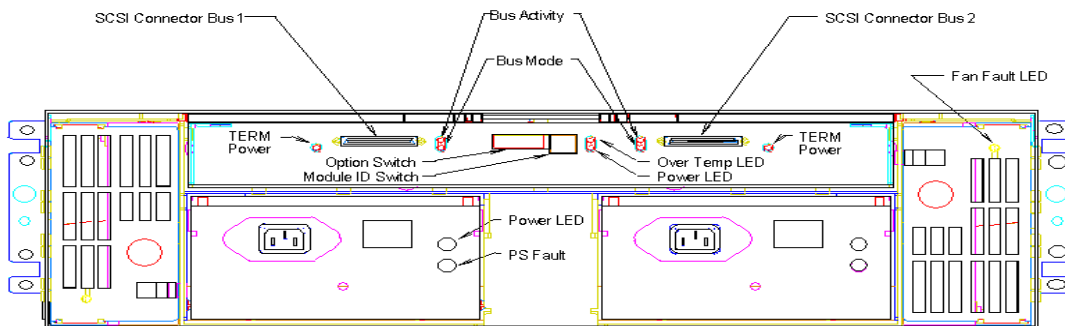

Figure 47. Drawer (Rear View)
- Move the SCSI cable representing the second channel (in this example, channel two) on the original drawer, to Bus 1 Connector on the back of the new drawer as shown in Figure 47.